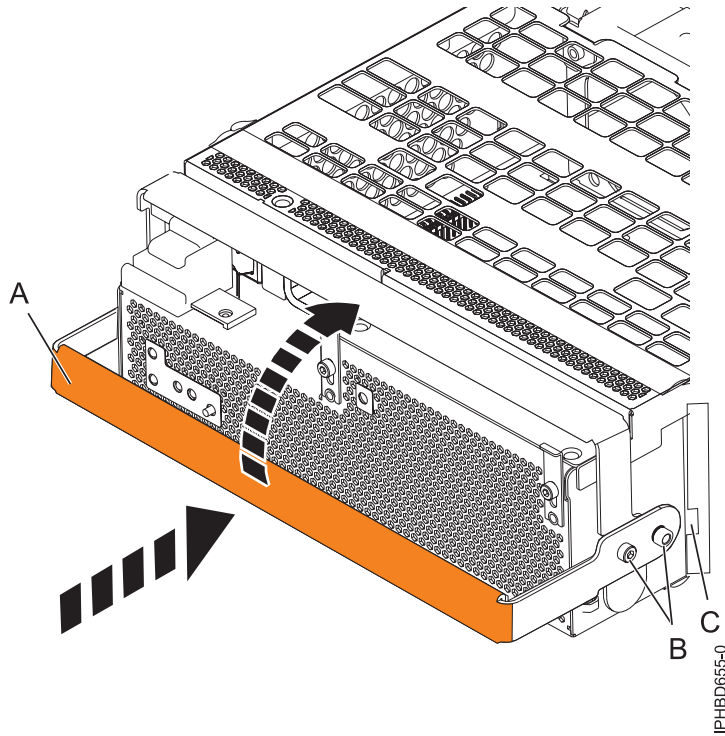

Figure 90. Replacing a power supply
11. To replace the power supply, with the locking handle (A) in the open position, push the power supply into the expansion unit as shown in Figure 90 on page 118.
12. Close the locking handle (A) until the power supply locks into position.